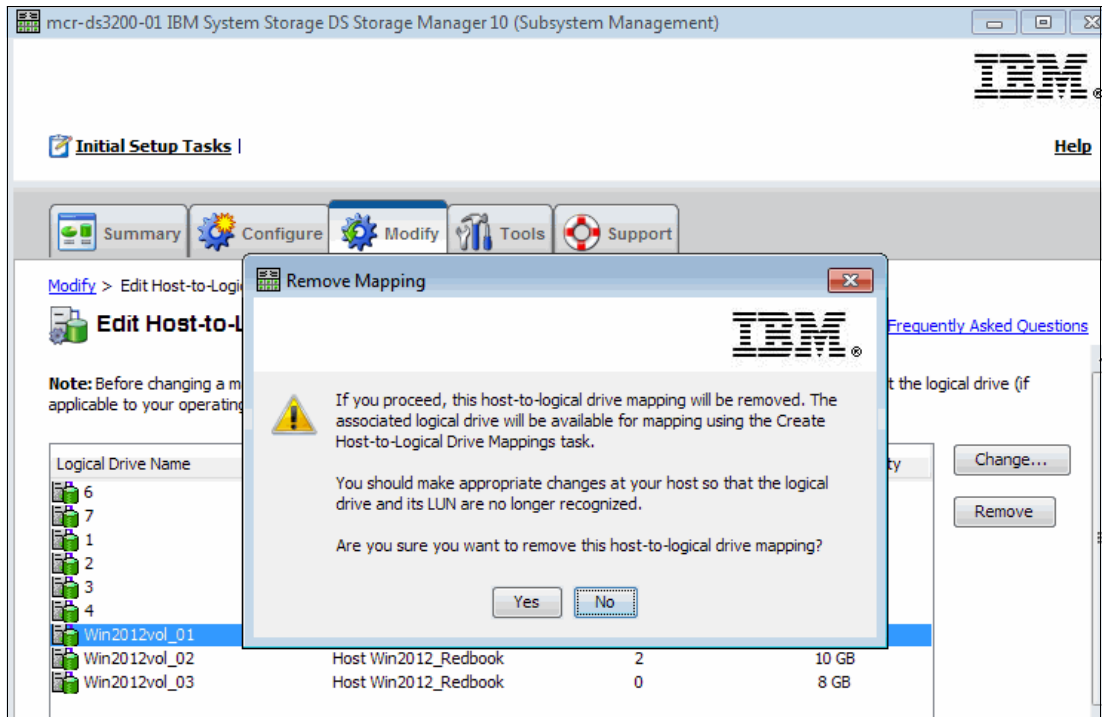

Figure 6-23 Host mapping warning: IBM DS3200
4. A warning message is presented, as shown in Figure 6-23.